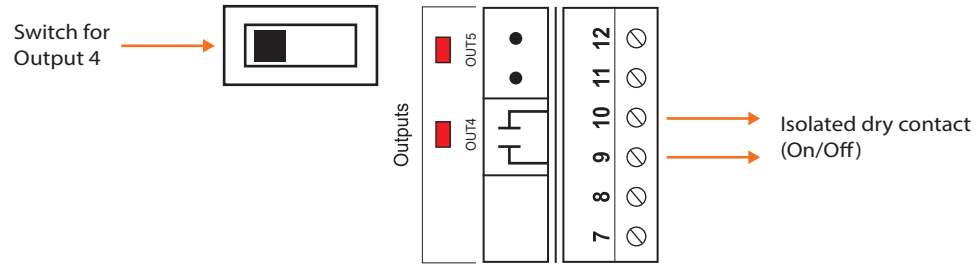

Figure 12 - Output in SINK mode
2) Switch position to obtain a SINK *passive output* (see Figure 12):